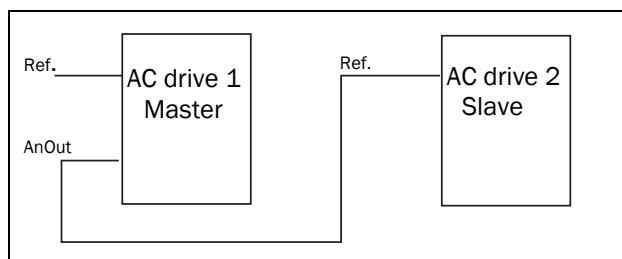

Fig. 74
- a reference signal for the next AC drive in a Master/Slave configuration (see Fig. 74).